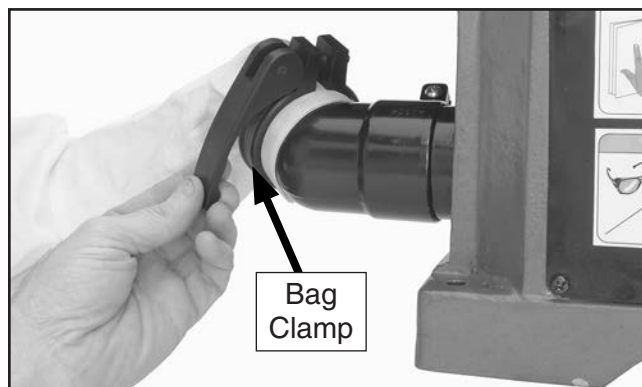

Figure 18. Securing dust collection bag with bag clamp.
1. Fit dust collection bag over dust port, as shown in **Figure 18**, and secure with bag clamp.